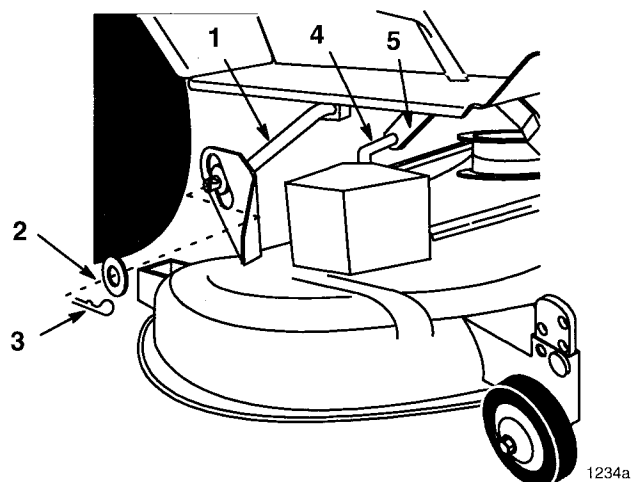

Figure 12
5. Remove hairpin cotter and washer from rear link and remove from attachment lift (Fig. 12).
6. Remove hairpin cottes and washers from rear lift arms (Fig. 12).
7. Slide deck right, off rear lift arms (Fig. 12).